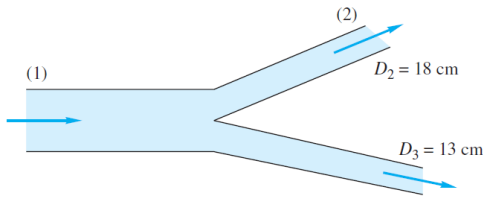

Fig. 3.8
- 3.8 Gasoline enters section 1 in Fig. 3.8 at $0.5 \text{ m}^3/\text{s}$. It leaves section 2 at an average velocity of 12 m/s . What is the average velocity at section 3? Is it in or out?